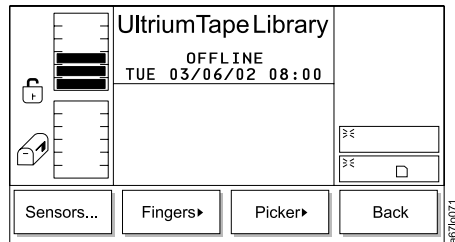

Figure 291. Diags Submenu
4. Press the button below the **Diags** softkey. The Diags Submenu displays (see Figure 291).